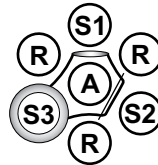

Figure 2.
- 4. Very Strong Positive:** The reference positive control lines turn toward the antigen well before they reach the well containing the test serum and there is a broad, hazy line between the test serum and antigen (A) (Figure 2, S1, strong positive sample). This line is situated very near the antigen well (A), especially if the plate is observed at 24 hours.
- 5. Non-Specific Lines:** These lines are observed between the antigen and test serum well. However, the reference positive control lines will pass through the non-specific line and continue on into the test serum well of negative sera (not shown). The non-specific line does not form a continuous line with the reference positive control lines. The reference positive control lines will form more acute angles with a non-specific line than with a BTV-specific line of identity. The non-specific lines are formed by sample-antibody reactions with antigens other than BTV. A sample serum may produce a specific BTV line as well as a non-specific line (Figure 2, S2, positive sample with non-specific line). Care must be taken to be certain a specific reaction is not obscured by a non-BTV line. Retesting such samples and observing the reactions at frequent intervals may facilitate making determinations if the samples are positive or negative.
- 6. Haze Around Well:** Occasionally a haze, due to lipids or other material in the serum, will form around the test serum well that may obscure the reference positive control lines near the sample well (Figure 2, S3). If the test is read at 24 and 48 hours, sometimes the results can be determined before the haze obscures the reaction. However, in some cases a determination cannot be made and another sample should be requested.